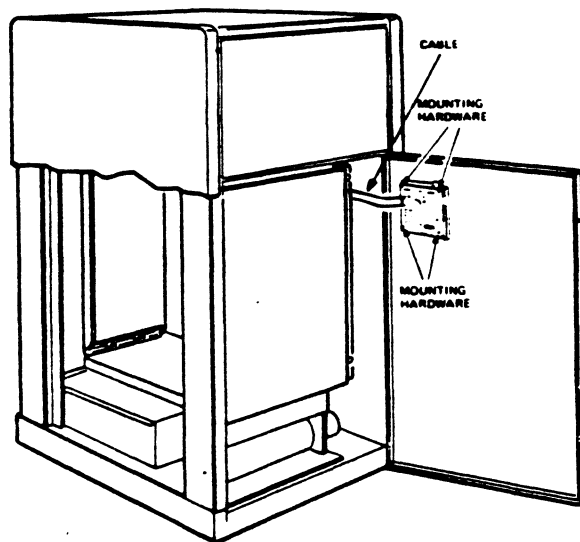

FIGURE 5-21 CABINET FRONT PANEL REMOVAL
4. Disconnect the cable from the front panel assembly. See Figure 5-21.